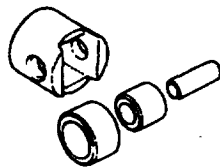

FIGURE 3-21. Tappet
- j. Check tappet (23) rollers, bushings, and pins for excessive wear, flaws, or peeling, refer to FIGURE 3-21. If damage is found, replace tappet.